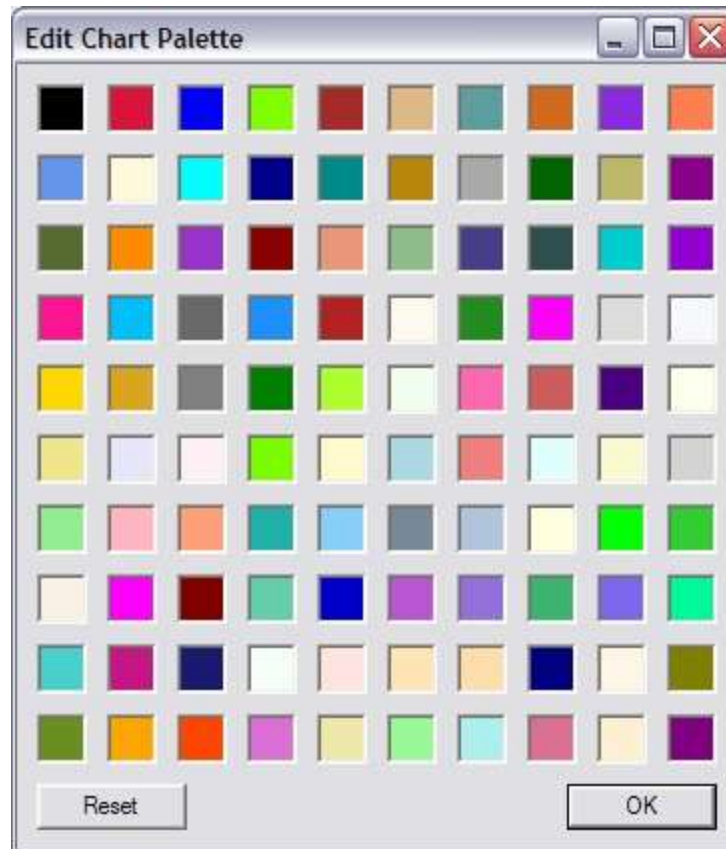

Figure 2 - The GUI used to change a graph's palette
**Palette Entries:** When the user double-clicks on a colored block in this GUI they are shown a standard Windows color choosing dialog box. The color that they choose in that dialog will be assigned to the palette entry that they clicked on. The entries are numbered beginning with 0 in the top-left corner of the GUI. The entries are then numbered along the rows. So entry 1 is the red square next to the black one in Figure 2. Entry 2 is blue, 3 is green, and so on.
**Reset:** When the user presses this button, all one hundred entries are reset to their default colors. The colors shown in Figure 2 are the defaults.